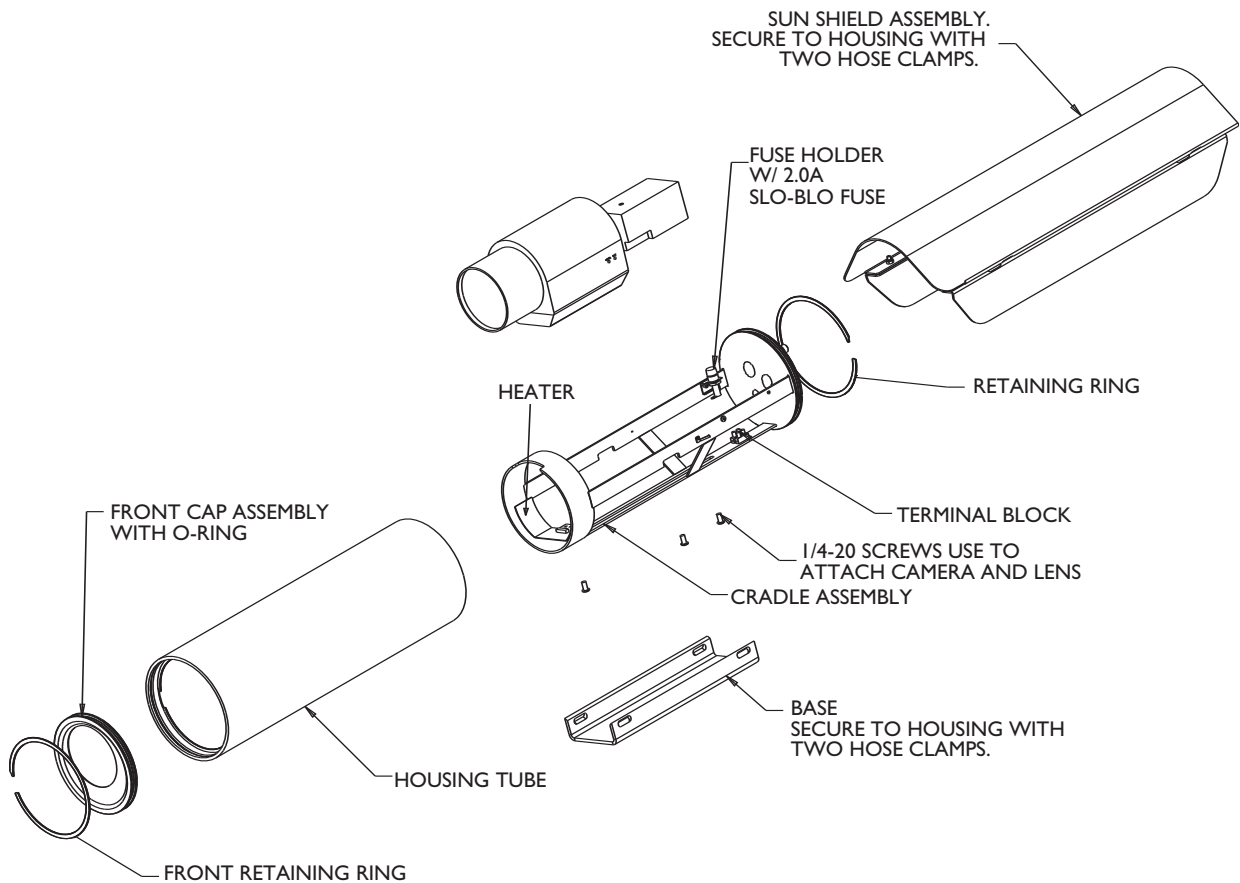

FIGURE 1 Housing Assembly Exploded View
3. Remove the Cradle Assembly by first removing the metal retaining ring on the connection end. Using the flat head screwdriver, gently lift the retaining ring at the opening and pry forward and lift up. The ring will lift slightly. Remove the ring from the housing and set aside for replacement when re-assembling the housing. See *FIGURES 1 and 4* for locations of retaining ring.
**Note:** This housing is equipped with a 2.0A Slo-Blo Fuse. See *FIGURE 1* for location.
1. To replace the cradle assembly into the housing tube remove the front retaining ring from the front cap assembly window. Using a flat head screwdriver gently lift the retaining ring at the opening and pry forward and lift up, the ring will lift slightly, remove the ring from the housing and set aside for replacement when reassembling the housing. See FIGURES 1 and 15 for locations.